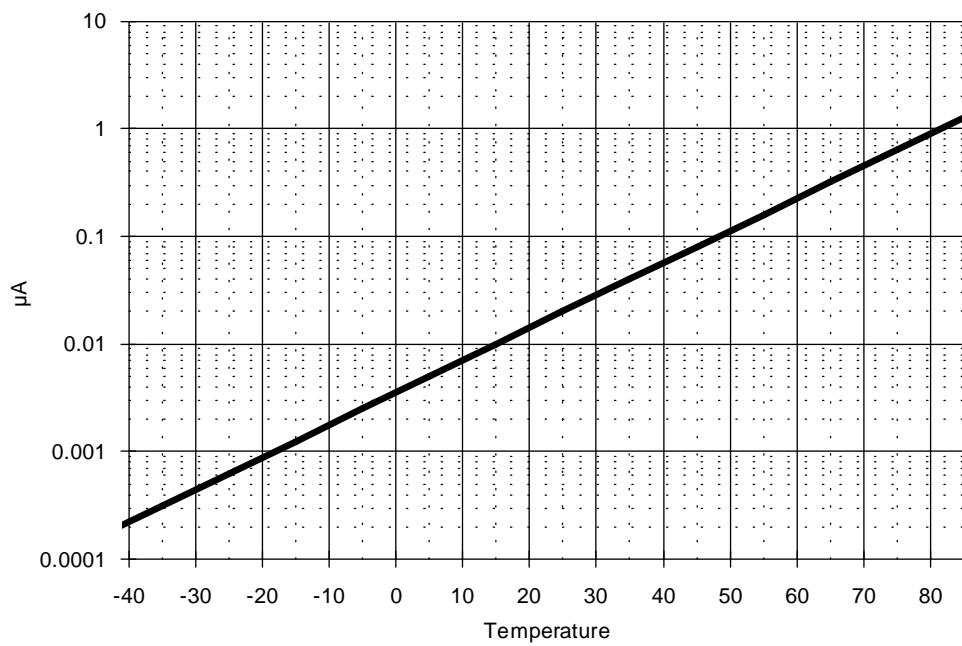

Figure 11 : Typical 'Zero Power' IDD vs. Temperature (VDD = 5.0V)
2. RD, MODE, RXCK inputs at  $V_{SS}$ , ZP input at  $V_{DD}$ . See also Figure 11.